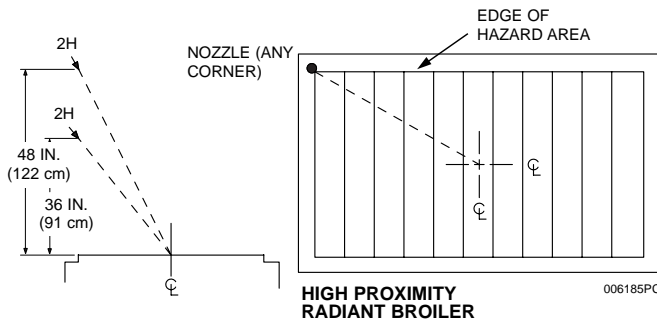

Figure 3-11a
The 2H nozzle, Part No. 551028, is used for high proximity radiant char-broiler protection. This nozzle is a two (2) flow nozzle. The nozzle must be located **above any corner** of the hazard surface, 36 in. to 48 in. (91 to 122 cm) above the cooking surface of the appliance and aimed at the center of the broiler surface. See **Figure 3-11a**.